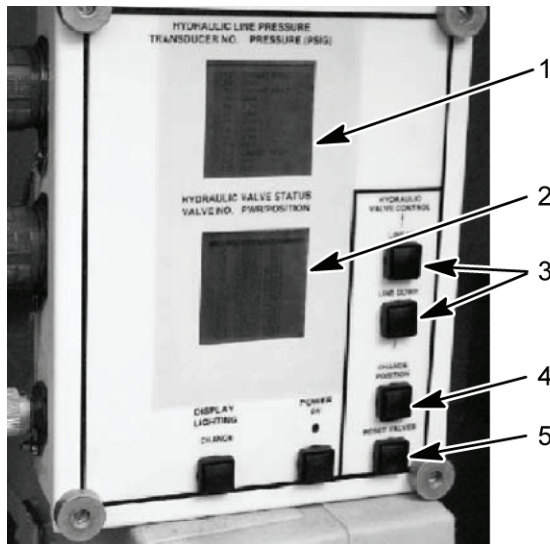
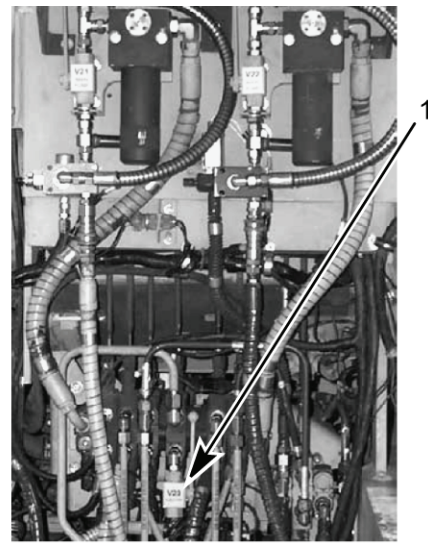

Figure 12. HDC Control Box
Figure 13. DCV Bank
- Loosen jam nut (Figure 14, item 1). Read transducer T-3 hydraulic pressure on the HDC display (Figure 12, item 1), as assistant moves right-hand SUSPENSION CONTROL lever to RAISE and EJECTOR CONTROL lever to BACK. Rotate relief valve adjustment (Figure 14, item 2) clockwise to increase pressure; counterclockwise to decrease pressure.
- When transducer T-3 pressure indicates 3,950–4,050 psi (27,235–27,925 kPa) on the HDC display (Figure 12, item 1), tighten jam nut (Figure 14, item 1).
- Verify pressure is now within limits by having assistant move right-hand SUSPENSION CONTROL lever to RAISE and EJECTOR CONTROL lever to BACK. Read transducer T-3 hydraulic pressure on the HDC display (Figure 12, item 1).
- Manually open ejector inhibit ball valve V23 (Figure 13, item 1) on the DCV bank. Using LINE UP or LINE DOWN button (Figure 12, item 3), select V1 on the HDC display (Figure 12, item 2). Open V1 on the HDC display (Figure 12, item 2) by selecting the CHANGE POSITION button (Figure 12, item 4) on the HDC control box.